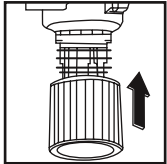

Fig. 2
2. Prepare the vacuum cleaner for dry vacuuming. Verify the filter cartridge is mounted safely. Double check the filter is depressed until stopping against the power head (Fig. 2) (the filter cartridge is installed in your vacuum cleaner; otherwise, go to page 6 for installation instructions).